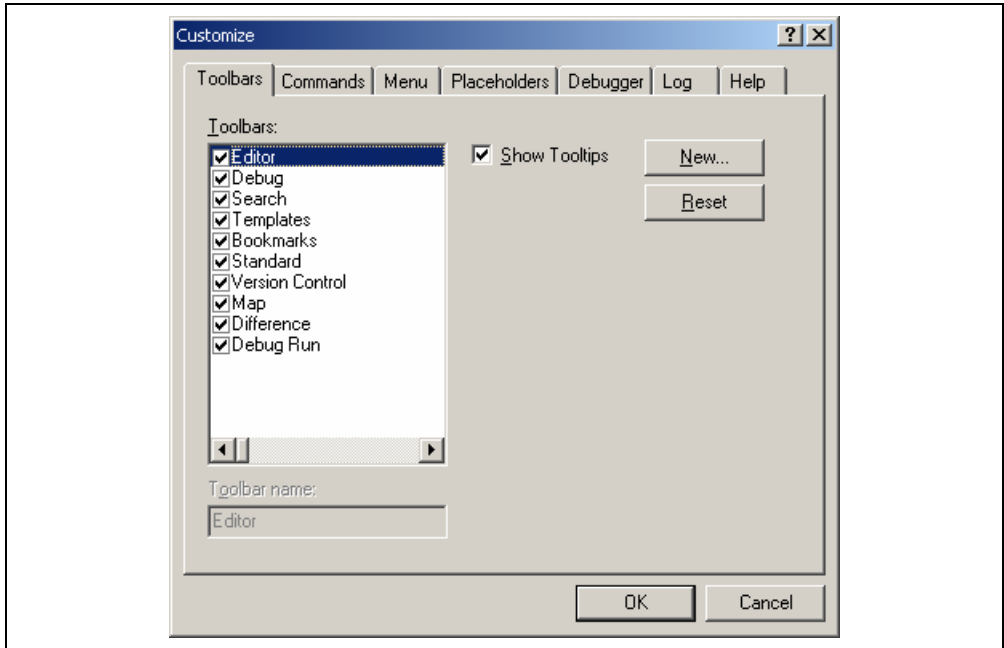
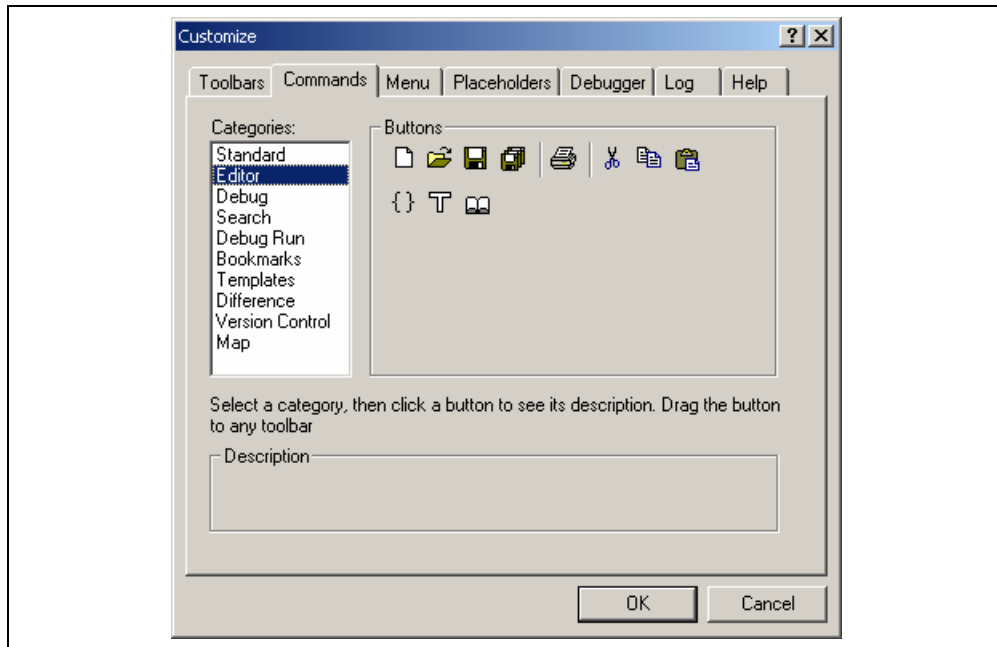
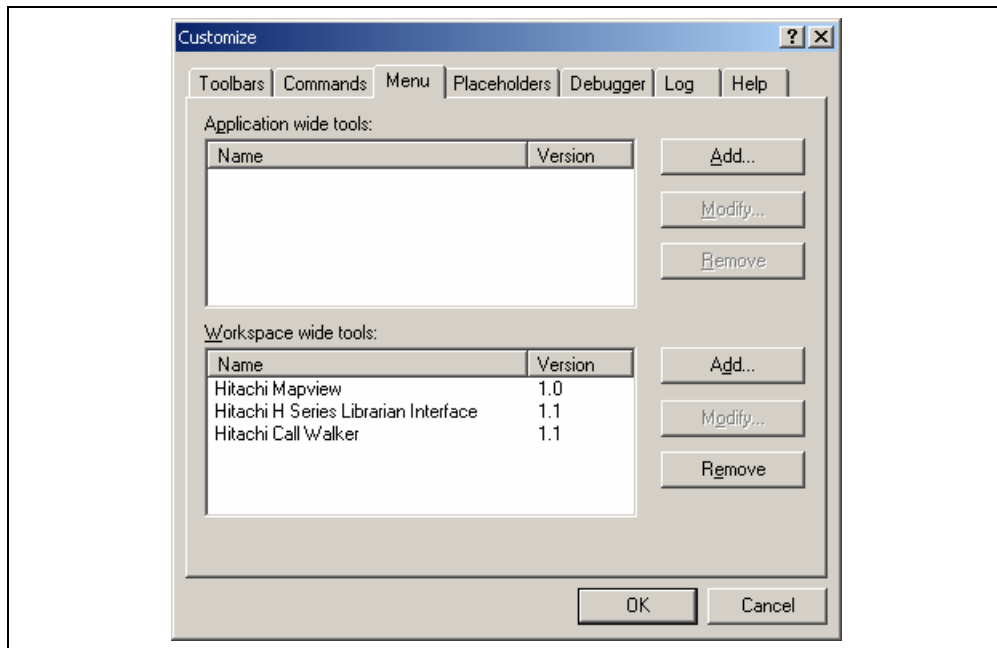
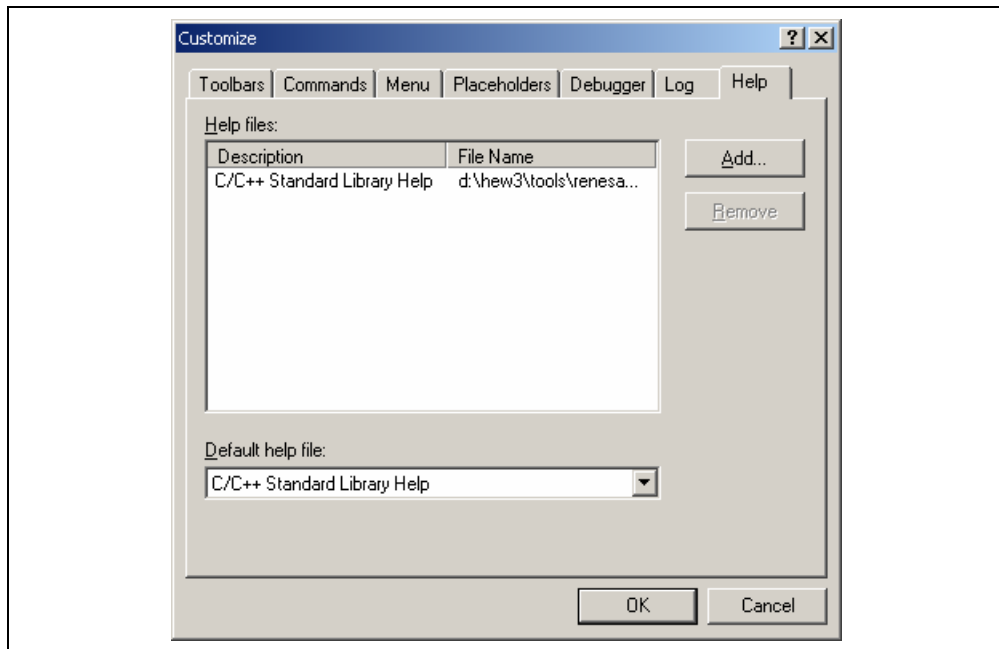

Figure 6.1: Customize Dialog Toolbars Tab
Figure 6.3: Customize Dialog Commands Tab
Figure 6.4: Customize Dialog Menu Tab
Figure 6.7: Customize Dialog Help Tab
The High-performance Embedded Workshop provides 2 standard toolbars as detailed in chapter 1, “*Overview*”. In addition to these, you may also construct your own toolbars via the “Customize” dialog (figure 6.1).
1. Select [Tools->Customize...]. The dialog shown in figure 6.1 will be displayed.
1. Select [**Tools->Customize...**]. The dialog shown in figure 6.1 will be displayed. Select the “Commands” tab (see figure 6.3).
1. Select [**Tools->Customize...**]. The dialog shown in figure 6.1 will be displayed.
2. Select the user-defined toolbar from the “Toolbars” list, and the “Reset” button in figure 6.1 changes to the “Delete” button. Then click the “Delete” button.
1. Select [**Tools->Customize...**]. The dialog shown in figure 6.1 will be displayed. Select the “Menu” tab (see figure 6.4). The first thing for you to decide is whether you are adding a global application wide tool (“Application wide tools:”), which will be available to all of your workspaces. Or whether you wish to add a workspace wide tool (“Workspace wide tool:”), which is only valid for the current workspace. Once you have made the choice choose the relevant section of the dialog.
1. Select [**Tools->Customize...**]. The dialog shown in figure 6.1 will be displayed. Select the “Menu” tab (see figure 6.4).
1. Select [**Tools->Customize...**]. The dialog shown in figure 6.1 will be displayed. Select the “Help” tab (see figure 6.7).